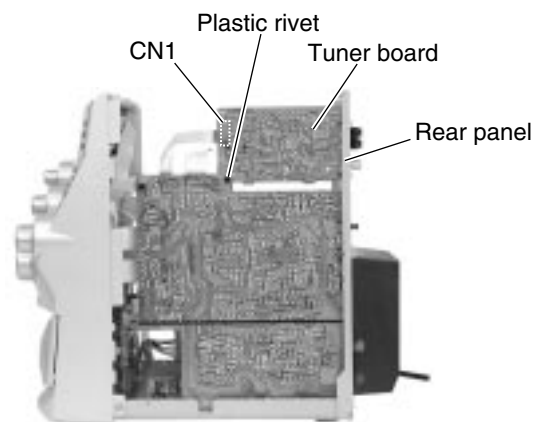

Fig.11
■ Removing the tuner board (See Fig.11 and 12)